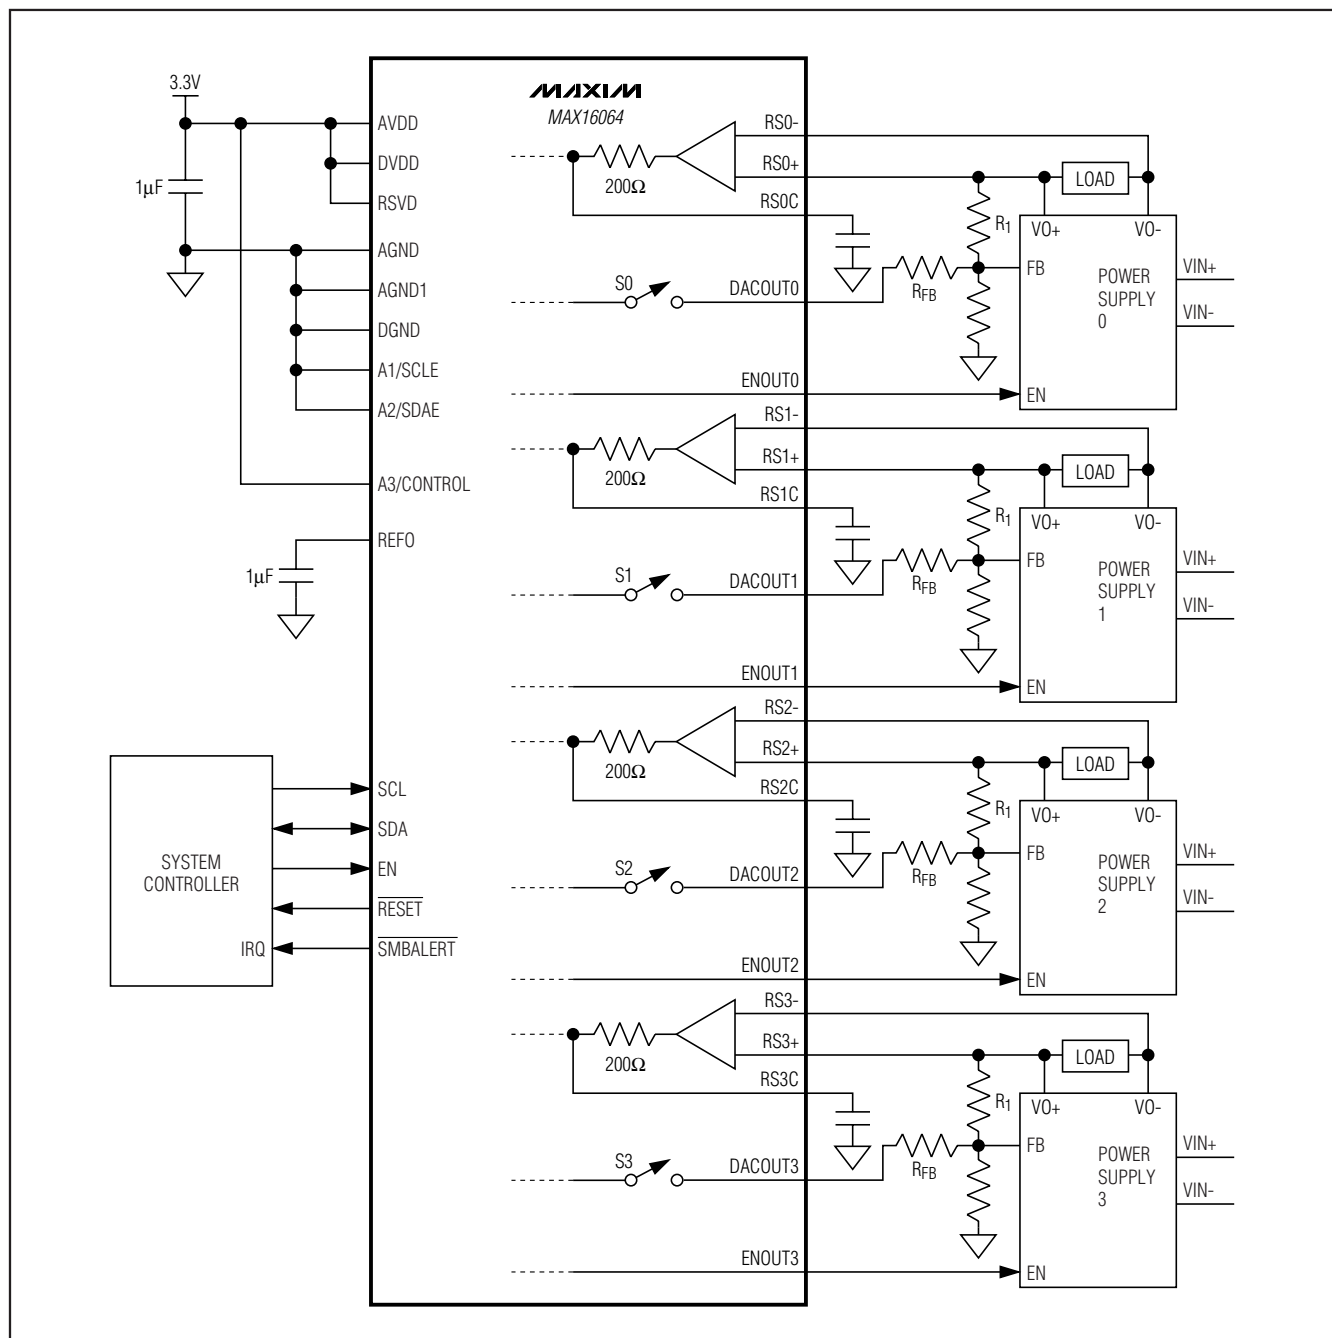

Figure 5. Typical System Application—Feedback Mode
Some power-supply converters do not provide a reference input. In these applications, the feedback node can be used instead. Connect a DACOUT\_ output of the MAX16064 to the feedback node (FB) through a resistor RFB as shown in Figure 5. In steady-state operation, the MAX16064 controls the power-supply voltage as measured between RS\_+ and RS\_- to  $\pm 0.3\%$  accuracy by adjusting DACOUT\_ 1 LSB at a time (0.5mV), up and down as required. This mode of operation is termed FB mode. Since the MAX16064 does not have control over the power-supply error-amplifier reference voltage, this mode relies on the power-supply soft-start setting to implement the required soft-start time.